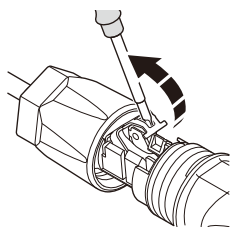

Figure 4.7
Step 2. Open the spring using a screwdriver as below. (see figure 4.7)